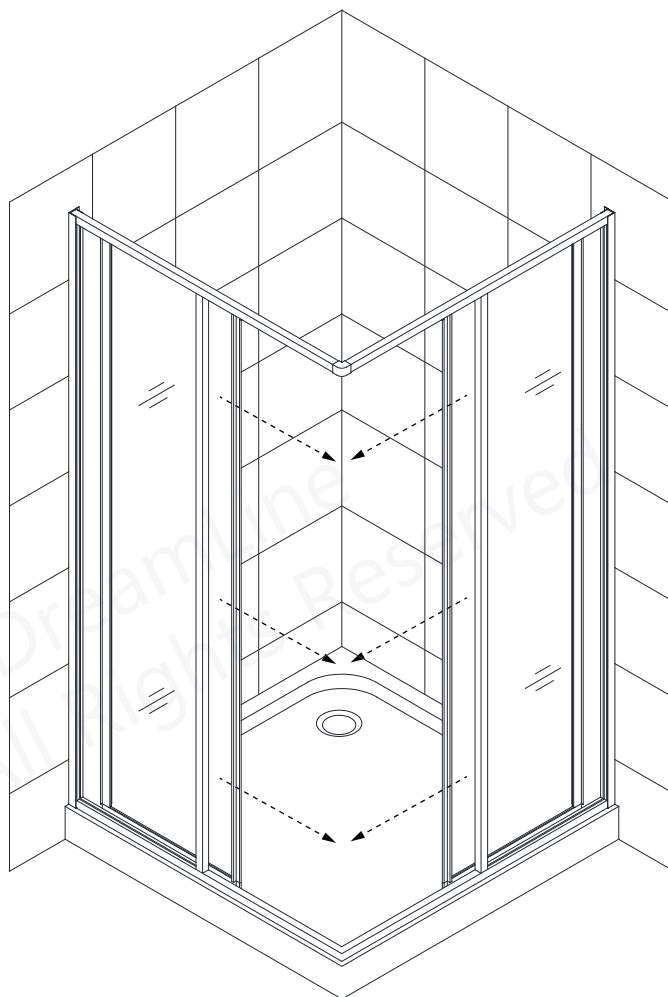

**Fig 4**
**4.** Align the assembled **Panel Glass Panels (#02)** onto the Shower base and slide the **Glass Profiles** into the installed **Wall Profiles (#01)**. (**Fig 4**)